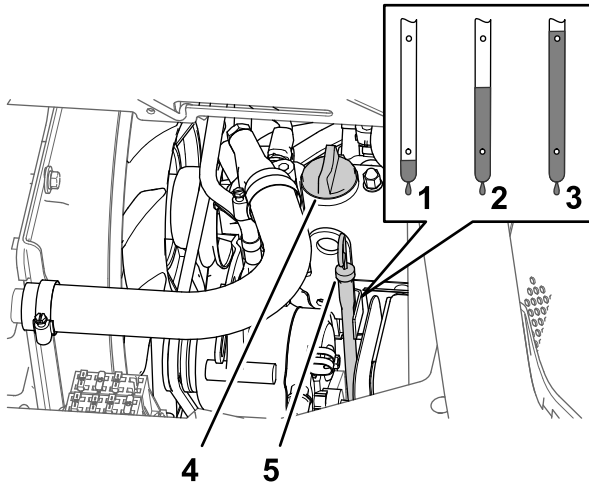

Figure 76
5. Remove the oil-filler cap from the filler neck of the valve cover of the engine (Figure 76) and slowly pour approximately 80% of the specified amount of oil into the filler neck.
6. Remove the dipstick and check the oil level in the engine (Figure 76).
7. Slowly add additional specified oil to bring the oil level to the full mark on the dipstick (Figure 76).
8. Install the oil-filler cap into the filler neck and the dipstick into the dipstick tube (Figure 76).